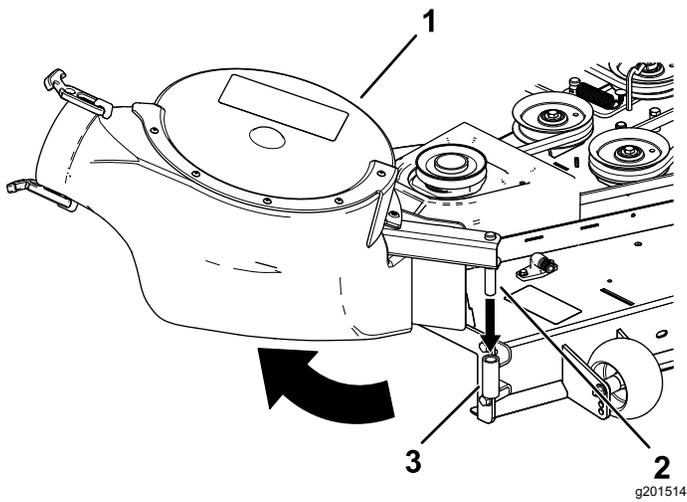

Figure 24
2. Insert the blower pivot pin into the blower support and rotate the blower assembly inward toward the machine (Figure 24).